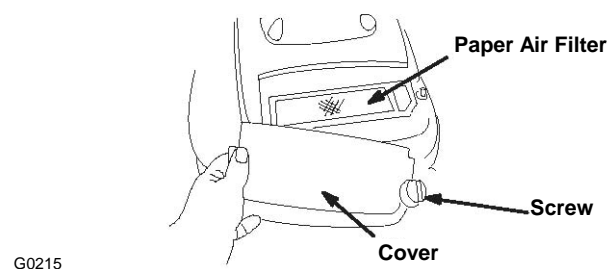

FIGURE 16
3. Remove the screw that secures the air cleaner cover (Fig 16.)
4. Remove the cover and clean it thoroughly (Fig. 16).
5. Remove the paper air filter and discard it as required (Fig. 16).